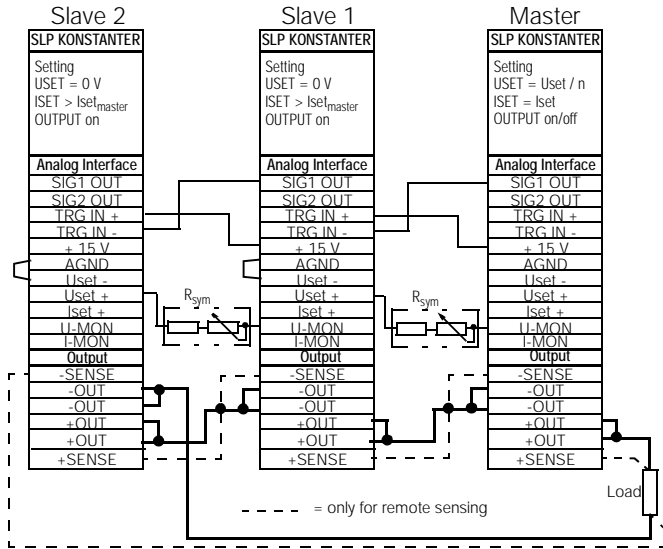

Figure 5.9.2 Wiring for the master-slave series operation
- Couple master and slave instrument(s) as shown in figure 5.9.2.